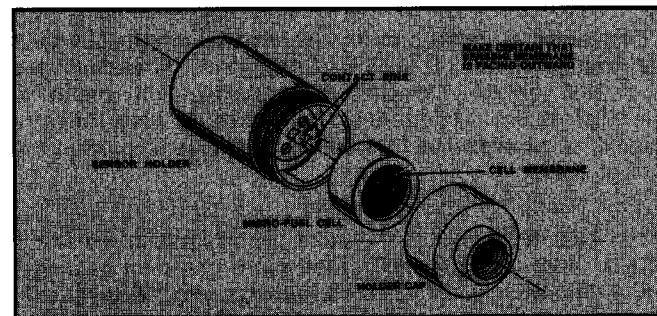

Figure 5. Installing Cell in Holder
2. Unscrew the Holder Cap from the sensor holder (see Figure 5).